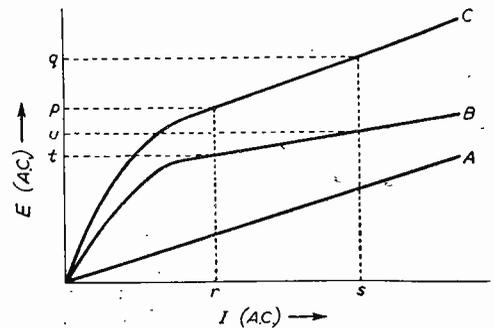
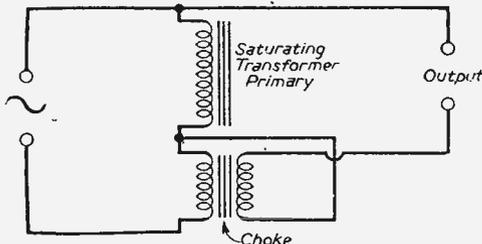
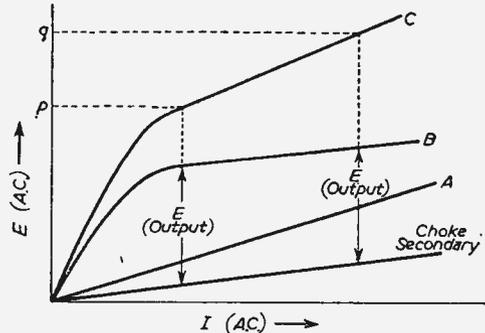

Fig. 2.—Current voltage relationship for various conditions.
Fig. 3.—Secondary wound on choke and connected in series with saturating coil.
Fig. 4.—Graph of results obtained by a set-up as in Fig. 3.
Fig. 2 shows on the same diagram the voltage current
curves for a linear choke, i.e., one whose core is not allowed to run into saturation (A); a saturating transformer primary (B); and for the pair in series (C), which is obtained by adding the voltages across the other two. It will be noticed that the curve C has no sharp current run-off, as did that of the transformer alone; in fact, it tends to become parallel to curve A. The sum of the voltages across choke and transformer is of course the mains input voltage. Suppose that this voltage changes from the value p to the value q, Fig. 2. This will result in a current change from r to s, which means that the voltage on the transformer primary changes from t to u—obviously a very much smaller change, not only in absolute value but also a smaller percentage change. Not true constant voltage yet. But now suppose that we wind a small secondary on the choke, and arrange it so that it produces a voltage change equal and opposite to that on the transformer primary. All we now have to do is to connect this in series with the saturating coil, and the net output will be constant. The arrangement is shown in Fig. 3 and the relative graph in Fig. 4. This circuit has the snag that it always gives an output at lower voltage than the mains, and so in practice the modified version of Fig. 5 is adopted; here the output from each component is stepped up so that the difference between them is equal to the desired voltage. The curves of Fig. 4 still apply, of course, each output being increased in the same proportion.